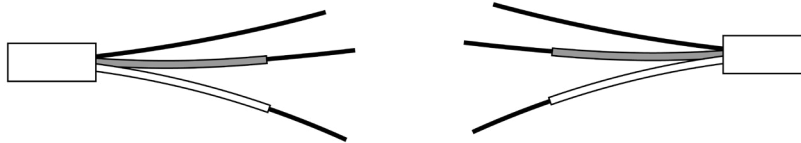

Figure 2. Small wire leads prepped for soldering
1. Prepare the wire ends for tinning and soldering. Carefully cut 1 1/4 inches of the outer-wire sheath, exposing the three small wire leads. Do the same for each of the three small, inner-wire leads, carefully exposing 3/8 inches of bare wire (Figure 2).